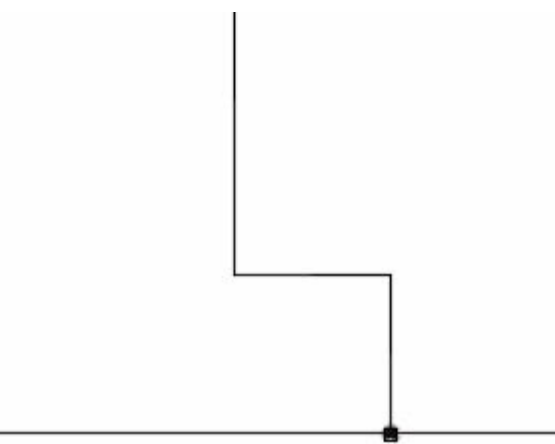

Figure-63. Wire bend after selecting second point
- Click on the second wire to specify the end point of bend. The wire bend will be created refer to Figure-63.